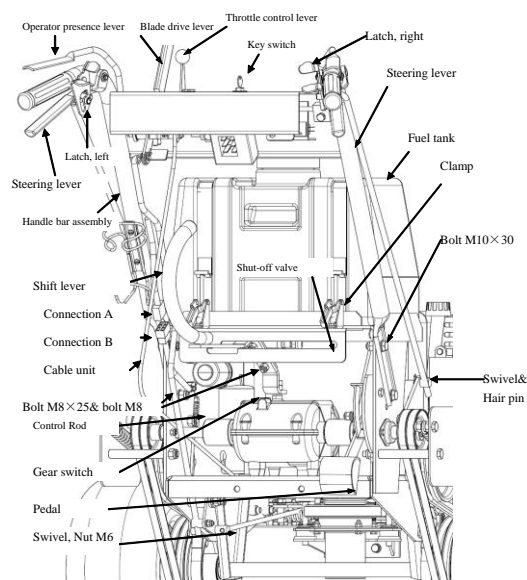
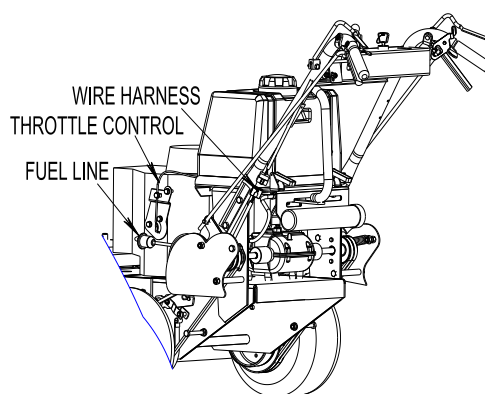

FIG 6
FIG 7
used to shut off the fuel when the machine will not be used for a few days, during transport to and from the jobsite, and when parked inside a building, see FIG 6.
- Attach the handle with four M10×30 Hex Hd Bolts and four M10 Nuts on each side as show in FIG 6
Follow the instructions to properly adjust each of the controls as shown in FIG 6.
- Attach the foot pedal to the console frame with M6×12 bolt and washer. See FIG 6
- Put the fuel tank into the position and lock it as shown in FIG 6.
- The Throttle Cable must be attached to engine according to the Engine Operator's Manual. Fuel Tank line connects to the line of engine. See FIG7
- Electric, connect connection A to connection B on the handle bar. Recoil, connect the wiring harness connection to engine flame-out wiring harness and neutral switch. See FIG6 and FIG7.